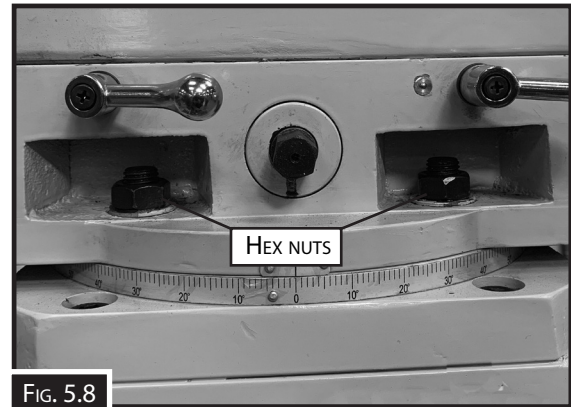

FIG. 5.8
2. Loosen the four hex nuts (two on each side of the ram) that secure ram to turret (Fig. 5.8).